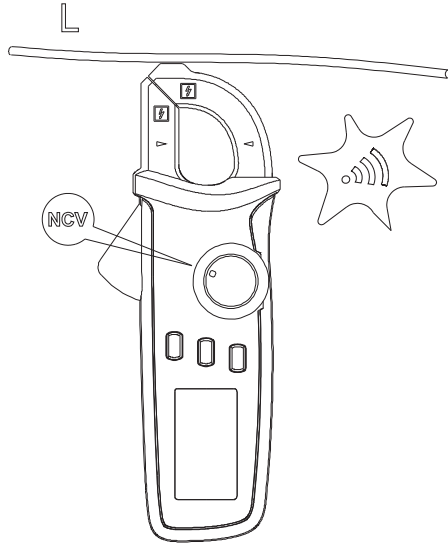

Figure 4
4. NCV noncontact electric field measurement (for UT210B) Figure 4